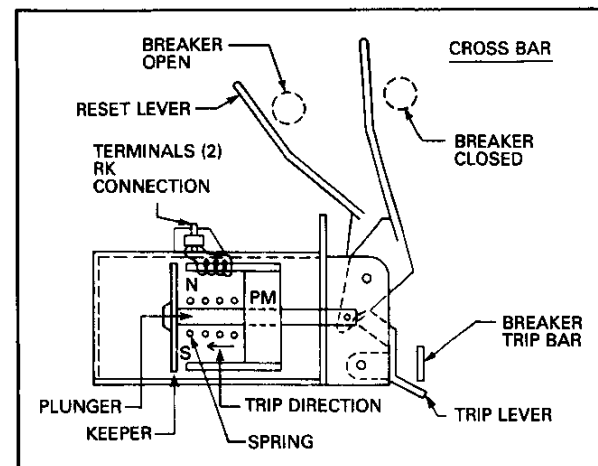

Fig. 2 Actuator Diagram
When the actuator receives a tripping current from the RK, it releases a mechanical force to trip the breaker. The actuator is made up of a permanent magnet and a spring. See Fig. 2.
3. Operate the actuator a few times. Alternately pull back on the reset lever (see Fig. 2) and then trip by applying 28 Vdc (be sure to use correct polarity) to the terminals.